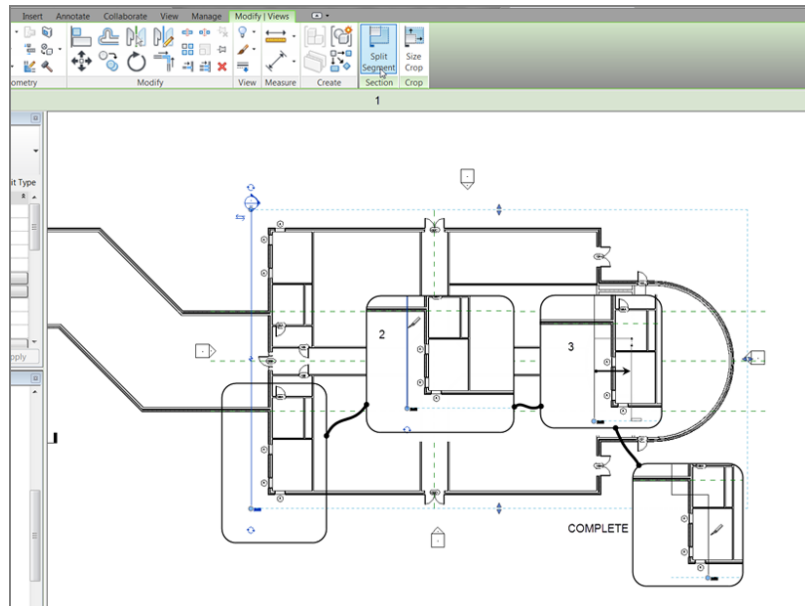

FIGURE 3.61: Jogging a section calls for splitting the segment.
8. Pick a point along the section line just below the corridor, as shown in Figure 3.61.